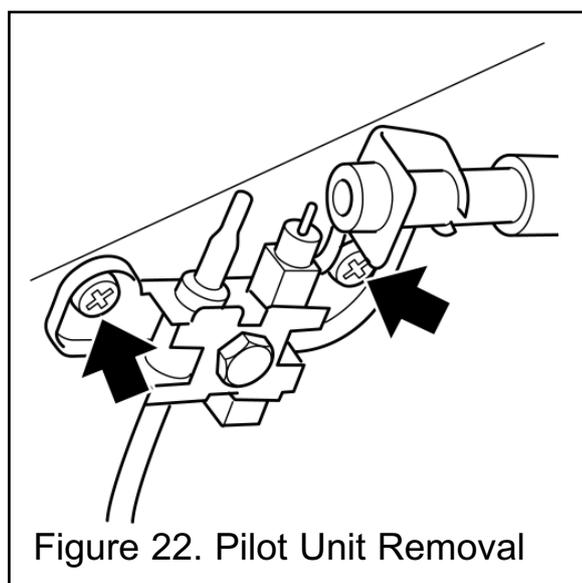

Figure 22. Pilot Unit Removal
6. Remove the two screws securing the pilot unit (see figure 22).